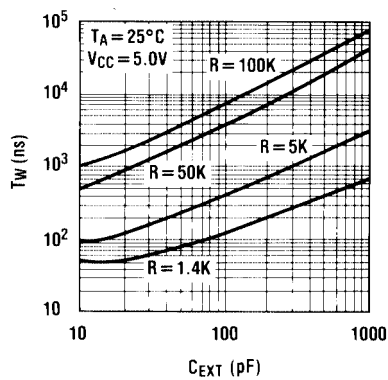

FIGURE 3.
5. For $C_X < 1000$ pF see Figure 3 for t_W vs. C_X family curves with R_X as a parameter.